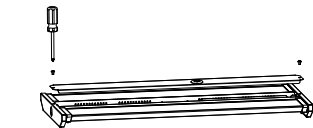

Figure 9
- Step 1. Open the face cover with a screwdriver; (Figure 9)